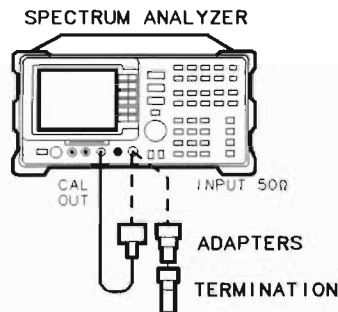

Figure 2-74. Displayed Average Noise Level Test Setup for Option 130
1. Connect a cable from the CAL OUT to the INPUT $50\ \Omega$ of the spectrum analyzer as shown in Figure 2-74.